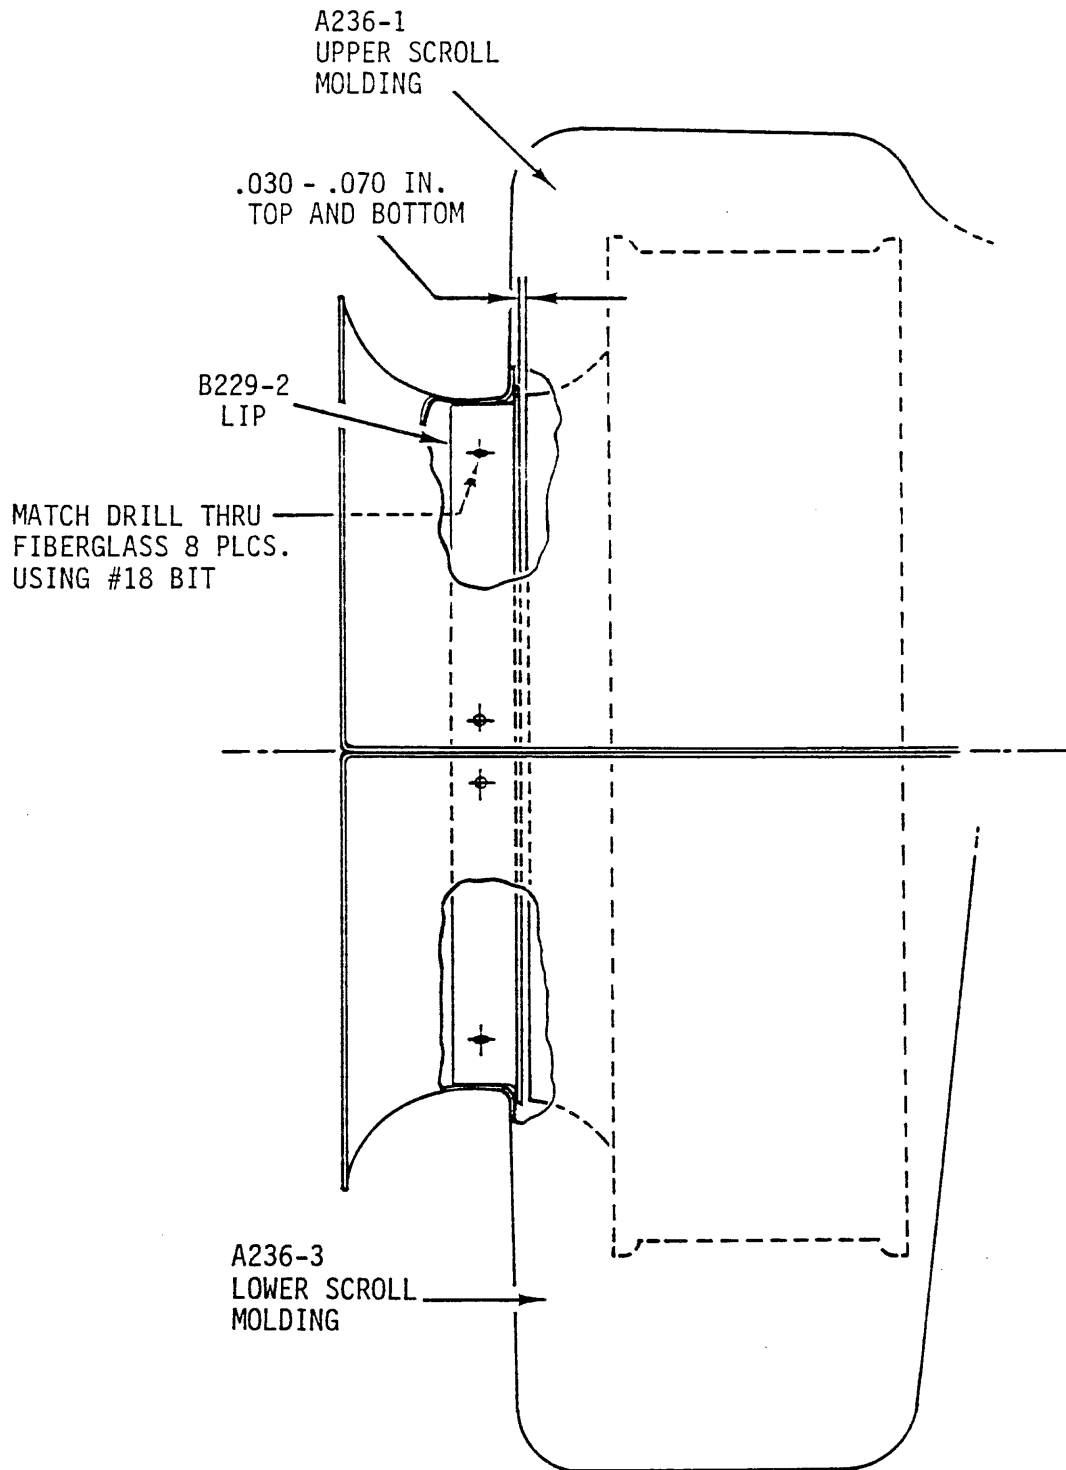

FIGURE 6-5C COOLING SCROLL REPLACEMENT
- h) Check B229 lip to fanwheel inlet clearance per Figure 6-5C. If necessary, lip clearance may be adjusted by elongating lip mounting holes.